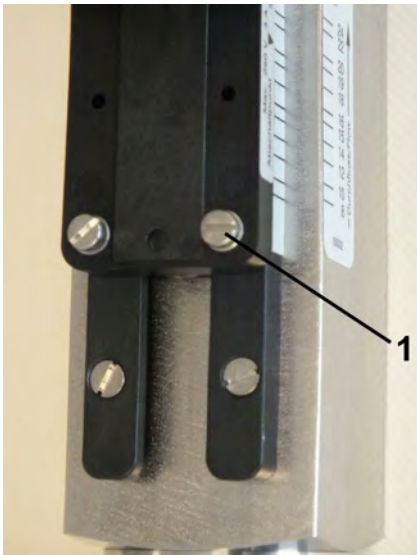

Fig. 34: Loosen set screws
1. Loosen the set screws of the switch contact (Fig. 34/1) using a flat-bladed screwdriver.
3. Tighten the set screws of the switch contact (Fig. 34/1) using a flat-bladed screwdriver. When doing so, observe the correct tightening torque of the screws.